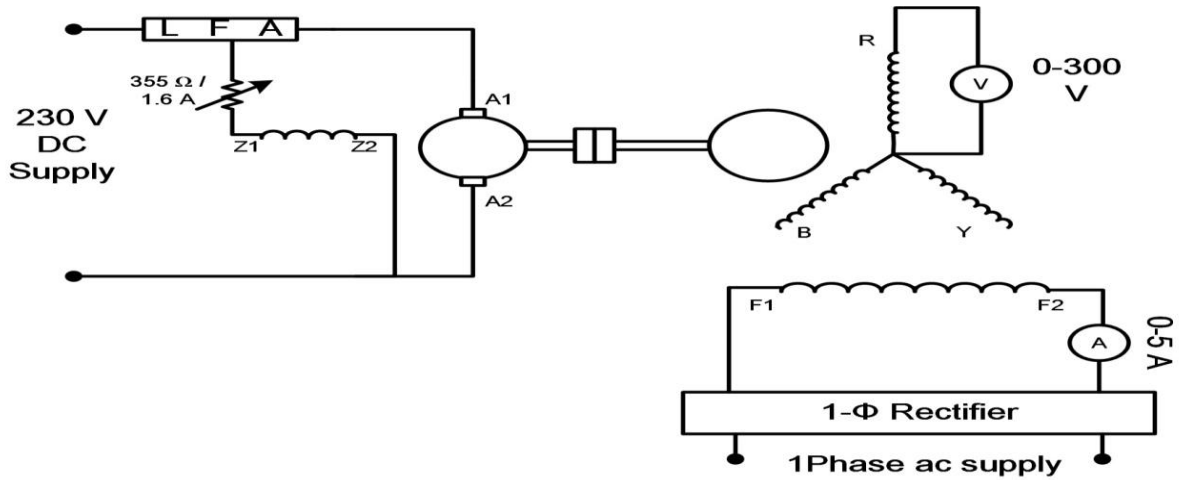

Fig.1: Connection Diagram for open circuit characteristics
1. Connect the circuit as shown in fig.1